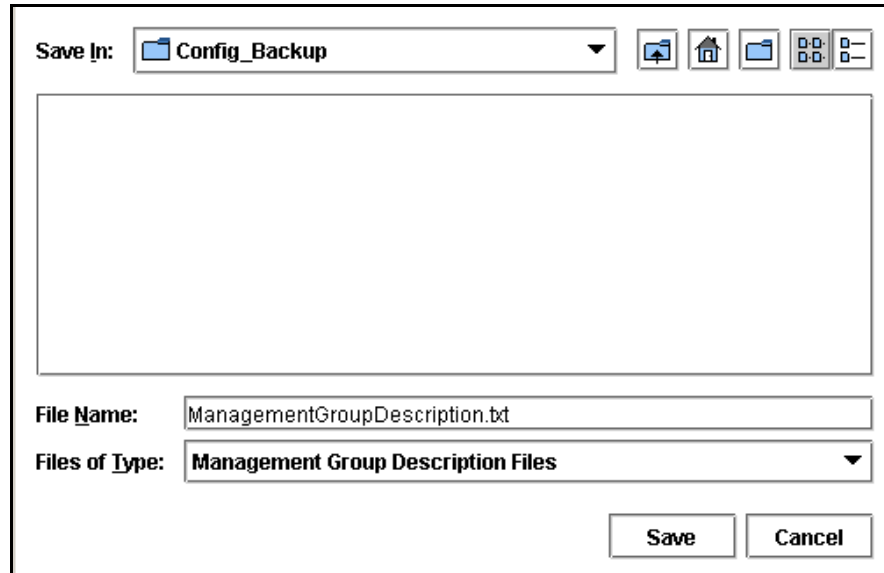

Figure 146. Save Window for Backing up the Management Group Configuration
1. Click Back Up Configuration. The Save window opens, shown in Figure 146.